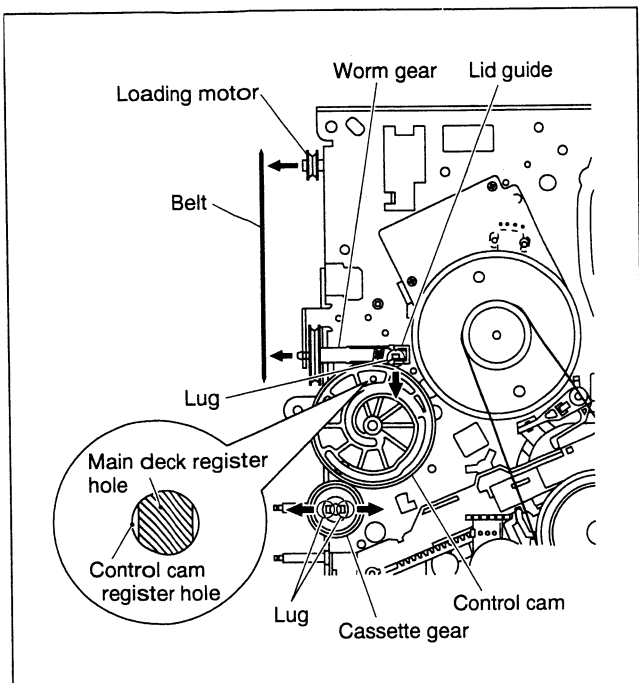

Fig. 2-2-22
- 5) When installing the control cam, make sure that the register hole at the control cam is in alignment with the register hole of the main deck. (See Fig.2-2-22)